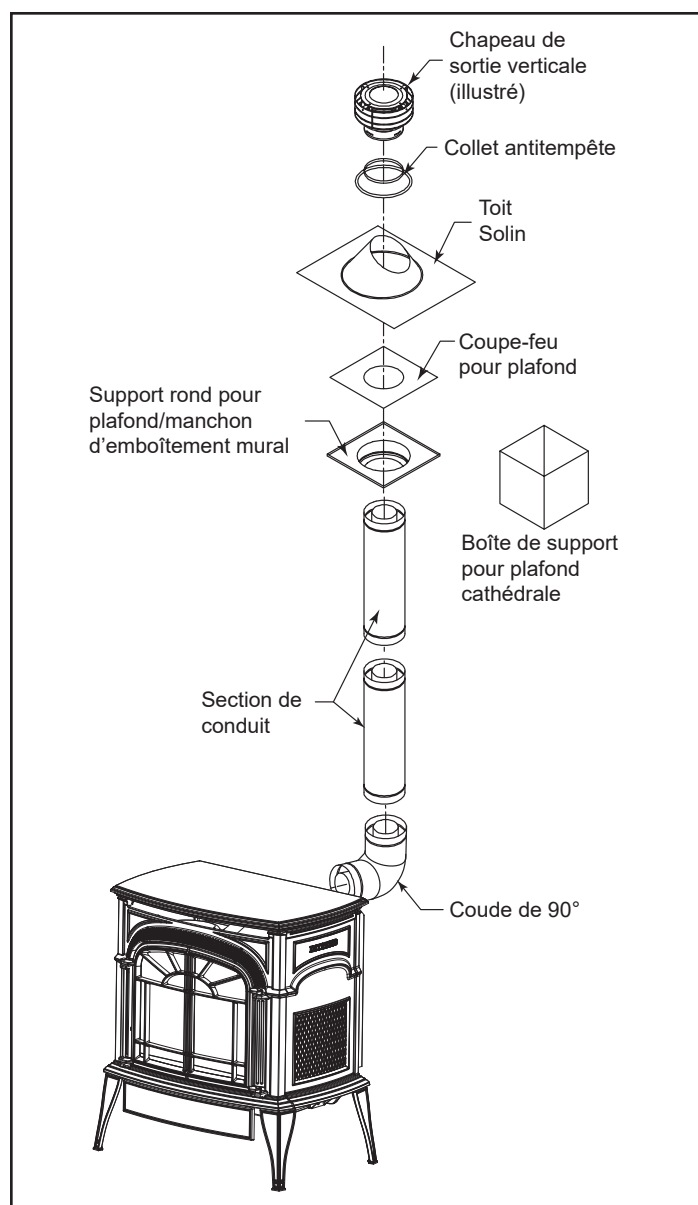

Figure 3.19
- Sortie verticale, figure 3.19.